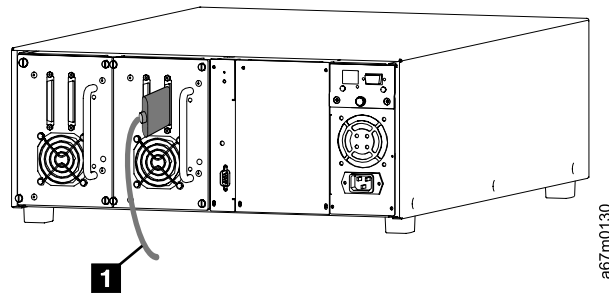

Figure 25. SCSI cable connected to library
1. Connect the SCSI cable to either of the SCSI connectors on the rear panel of the drive (see **1** in Figure 25).